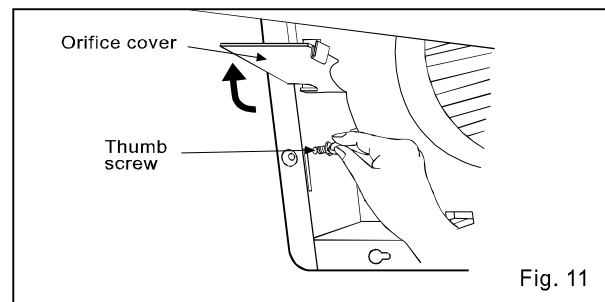

Fig. 11
- Open the orifice cover, secure the fan body to adaptor by using thumb screw. (Fig. 11)
- Secure the adaptor and fan body by using thumb screw. (Fig. 11)